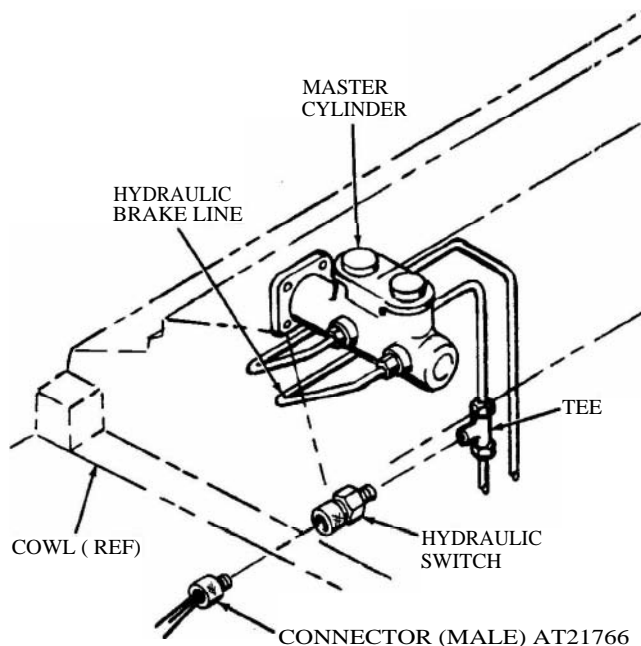

Figure 2-114. Hydraulic Stoplight Switch.
(1) Remove electrical connector from hydraulic switch located under cowl assembly (fig 2-114).
(2) Loosen nut on switch fitting and remove switch. Cap tee on hydraulic line.
(1) Remove cap from tee and insert hydraulic switch. Hand tighten switch (fig 2-114).
(2) Depress brake pedal until brake fluid starts to seep from switch fitting. Tighten hydraulic switch fitting.
(3) Connect electrical connector.